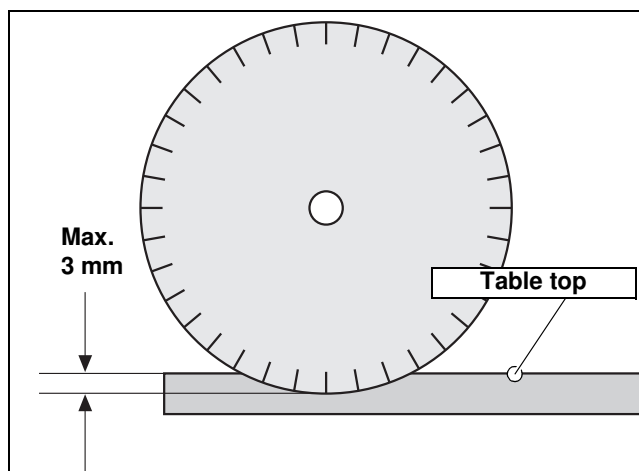

Fig. 3.26 Setting the saw blade to the required depth
In order to prevent damage to the table or the table saw, the depth stop must be set in such a way, that the diamond saw blade penetrates approx. 3 mm into the table (measured from the top face of the table, see Fig. 3.26).
3. Lower the cutting head with the mounted saw blade to the desired depth setting of 3 mm (Fig. 3.26) and retighten the palm grip!